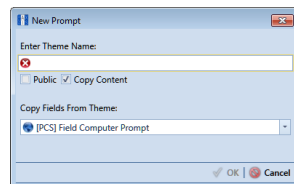

Figure 8-40. New Prompt
- 5 Click the  **Add** button to open the *New Prompt* dialog box (Figure 8-40). Required fields are identified with the  icon and must be completed to continue.